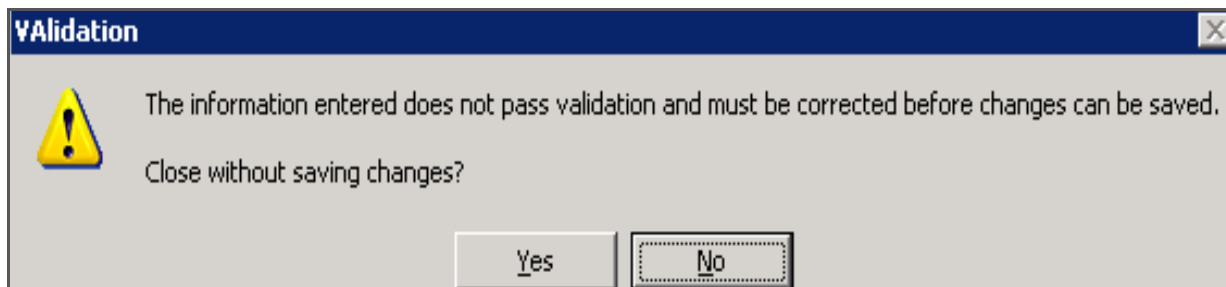

Figure 7-104: Validation error message – Information does not pass validation
7. If close is selected and data does not pass validation a validation message will appear. Selecting OK will cause a second validation message to appear asking if you wish to close the tab without saving the invalidated entries. This second message is shown below (Figure 7-104).